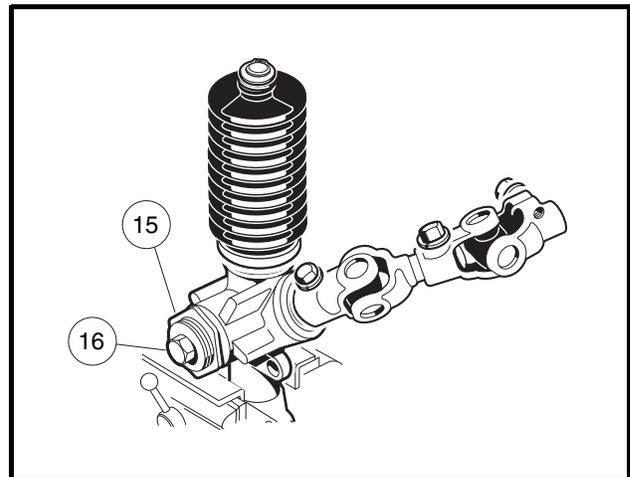

Figure 7-14 Rack and Pinion Adjustment
- 11.4. If measured resistance does not equal 7 to 15 in-lb, loosen the lock nut (15) and tighten the screw (16) until it bottoms out, then back the screw off one quarter turn. Tighten the lock nut to 28 ft-lb (38 N·m) (**Figure 7-14, Page 7-11**). **See following NOTE.**
NOTE: When tightening the lock nut (15) make sure the screw (16) does not change adjustment (**Figure 7-14, Page 7-11**).